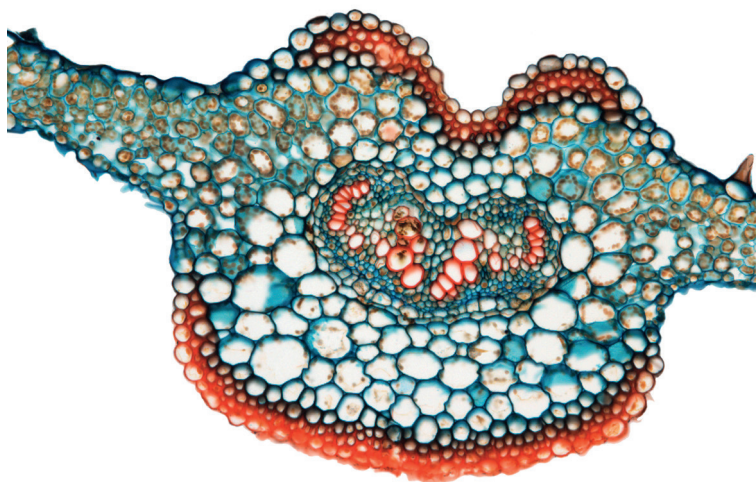

Fig. 2.2
(b) Fig. 2.2 is a photomicrograph of a transverse section through a different leaf from **J1**.
- (i) Identify **three** observable differences, other than colour, between the section on **J1** and the section in Fig. 2.2.
- (iii) Fig. 2.4 shows the same eyepiece graticule and same lenses being used to measure the width of the section shown in Fig. 2.2.